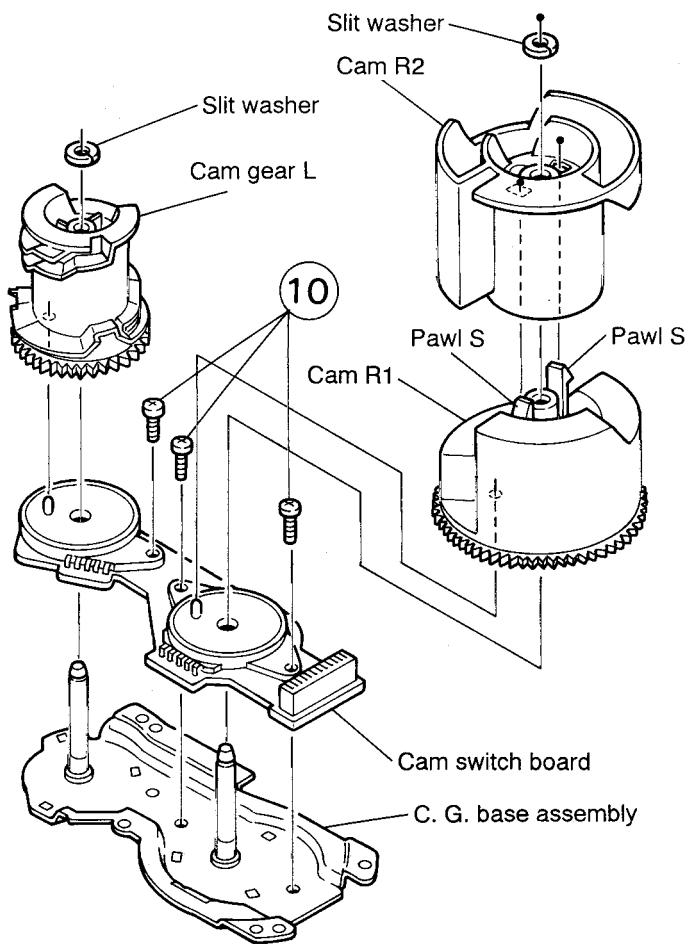

Fig. 5-37
■ Removing the cams R1/R2 assembly and cam gear L (See Fig. 5-37)
2. By removing the two pawls (S) fixing the cam R1, separate R2 from R1.
(See Figs. 5-37 and 5-38)